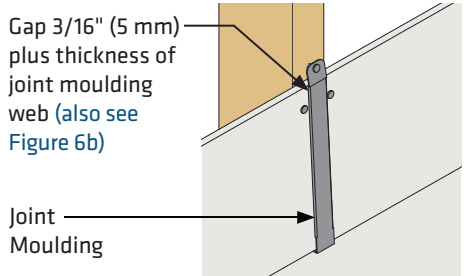

Figure 4c
2. **If joint moulding option is selected**, add the thickness of the joint moulding web to the butt joint gap retaining a net 3/16 inch (5 mm) space for expansion. (Figure 4c and 6b)